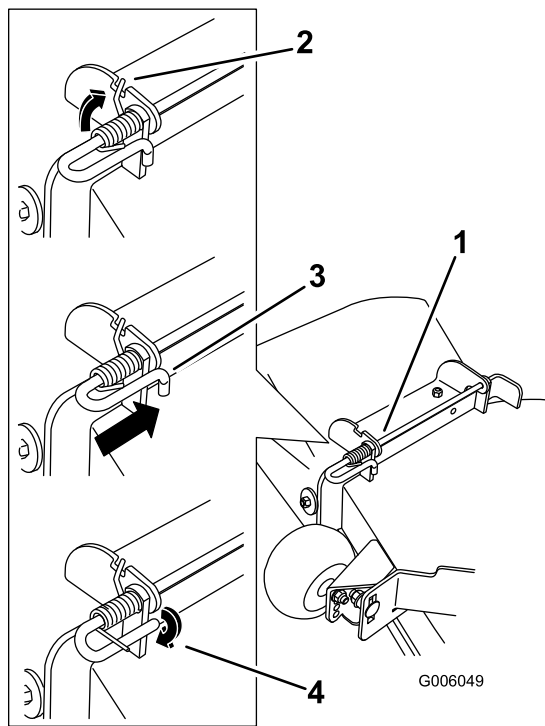

Figure 70
4. Lift the long end of the spring and place it into the notch on the deflector assembly bracket (Figure 70).
5. Secure the rod and spring assembly by twisting it so the short end of the rod can be placed behind the front bracket welded to the deck (Figure 70).